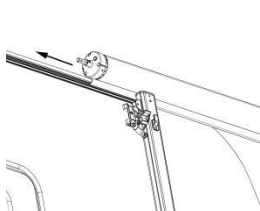
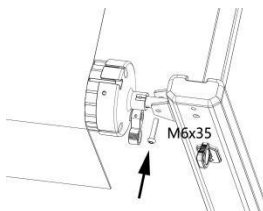
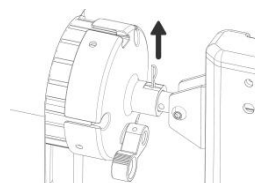

Figure C18
Figure C19
Figure C20
3.6 Loosen a section of fabric on the awning roller tube and thread it into the vehicle's the fabric rail (Figure C18). Then, use M6*35 screws to connect and secure the shaft end hole to the support rod top bracket (Figure C19). Remove the safety pins from the end caps on both sides of the roller (Figure C20) to ensure the fabric roll is tensioned.